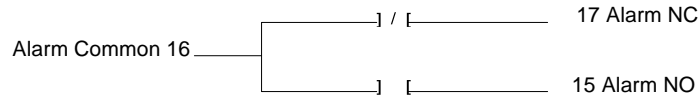

Figure 7. Low intensity alarm contact configuration
Two alarm outputs are available from the MultiBrite system. The Low Intensity Alarm Relay output available at terminals 15, 16, and 17 of the upper bottom back panel connector indicates the failure of any one of the lamps being monitored by the MultiBrite system. This alarm output is available as a normally open (NO) relay contact and a normally closed (NC) relay contact. When the alarm condition exists, the normally open contact exists, the normally open contact will open and the normally closed contact will close. While the intensity of the lamps being monitored are above the selected threshold level, the alarm relay will be energized, closing the normally open contacts and opening the normally closed contacts. These contacts may be used to control any external alarm device requiring a driving voltage less than 125 volts AC with a resistive load current less than 0.5 Ampere or 110 volts DC with a resistive load current less than 0.3 ampere. Connections to the Low Intensity Alarm Relay are totally flexible for the users application. The contact configuration is illustrated in Figure 7.
Alarm outputs are available on terminals 15 through 20. Refer to section 2.3 for a description of the alarm outputs of the MultiBrite. See Figures 7 and 8 for connection information.